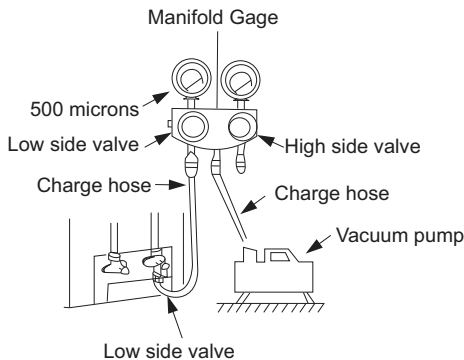

Fig. 11 – Manifold
3. Fully open the low side of manifold gage (see Fig. 11).